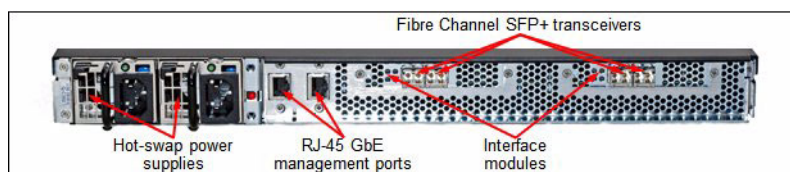

Figure 3-2 Shows the rear of an IBM FlashSystem 820
Figure 3-2 provides a rear view of the IBM FlashSystem 820 storage system, detailing the power, Ethernet management port, and Fibre Channel (FC) port connectors.
The IBM FlashSystem 820 contains dual management control processors, each with its own Ethernet management port. See Figure 3-2 on page 64 for a picture that identifies the ports on the system. To ensure the maximum availability of system management when using this model, it is recommended that you cable and configure both management interfaces. Connecting them to different virtual local area networks (VLANs), or optimally, different network switches, will provide the network redundancy and offer protection from a network disruption. For further details, refer to the *IBM FlashSystem 820 User's Guide* and *IBM FlashSystem 720 and IBM FlashSystem 820, TIPS1003*.
The IBM FlashSystem 820 storage system comes with dual, redundant AC power modules that connect to a 10 amp capable power supply. The unit ships with two IEC 320-C13 to C14 rack Power Distribution Unit (PDU) power cords. Refer to Figure 3-2 on page 64 for a graphic that identifies the storage system power connectors. For more detailed specifications on the IBM FlashSystem 820 storage system, refer to *IBM FlashSystem 720 and IBM FlashSystem 820*, TIPS1003.